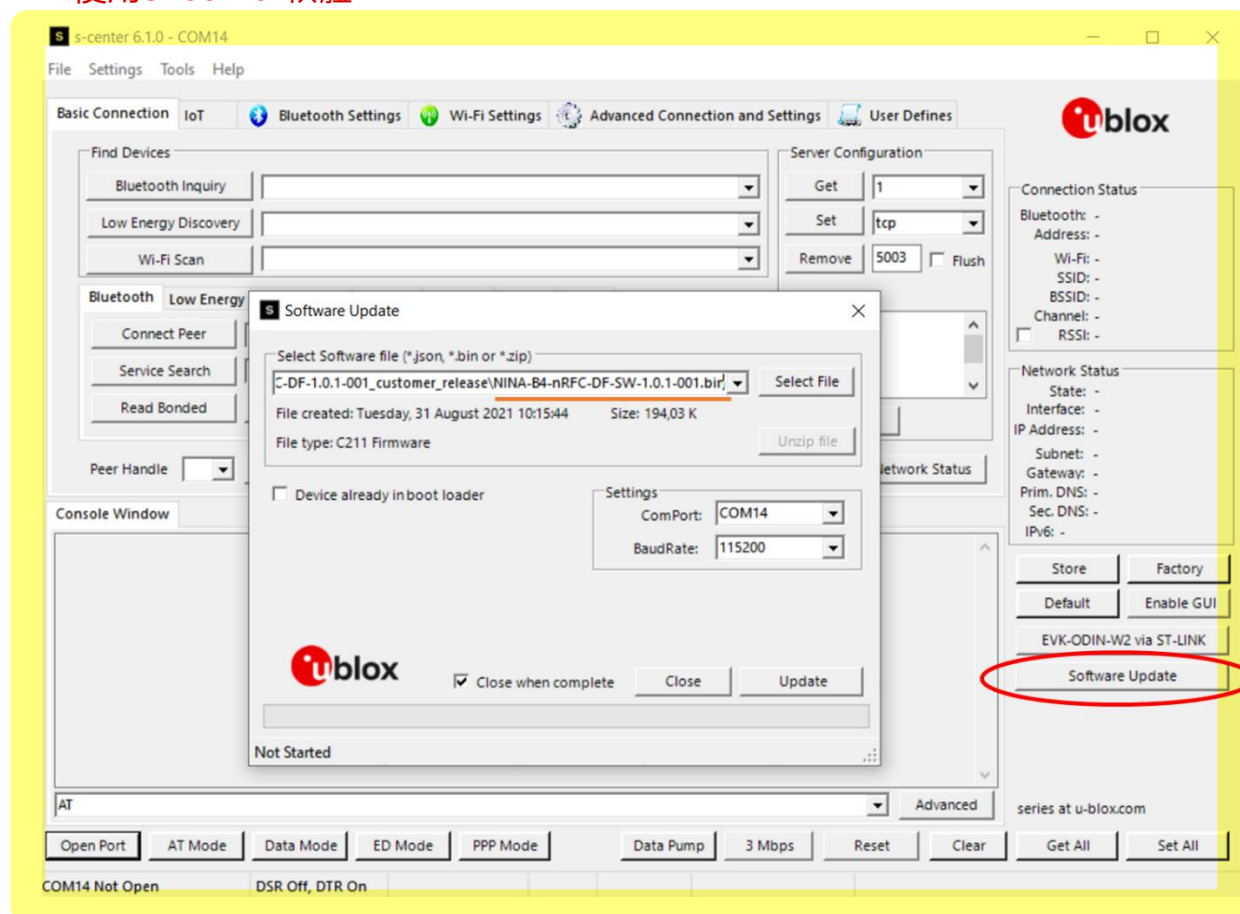

Figure 12: Updating the software on the C211 board using s-center
4. In the “Software Update” dialogue select the binary file in the software container, as shown in Figure 12. Make sure the flashing speed is set to 115200.